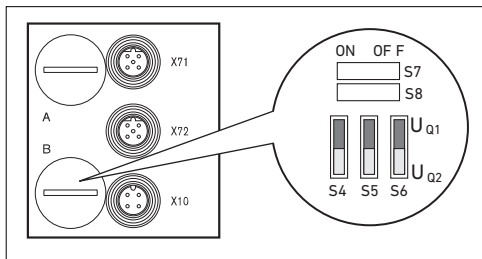

Fig. 9: S4, S5, S6 switches for assigning valve supply voltages (U_{Q1}, U_{Q2})
The S4, S5, and S6 switches for assigning the valve supply are located beneath PG fitting **B** (see Figure 9). The following is assigned to each switch:
1. Open the lower screw cap **B** (see Fig. 9 on page 104).
2. Using the S4, S5, and S6 switches, assign each valve group to one of the two supply voltages Uq1 or Uq2 (see Fig. 9 on page 104 and Fig. 10 on page 110).